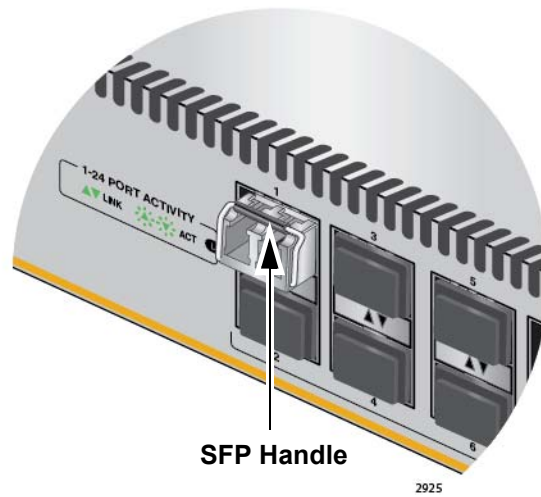

Figure 22. Positioning the SFP Handle in the Upright Position
6. Verify the position of the handle on the SFP transceiver. If the transceiver is in a top slot, the handle should be in the upright position, as shown in Figure 22 on page 65. If the transceiver is in a bottom slot, the handle should be in the down position.